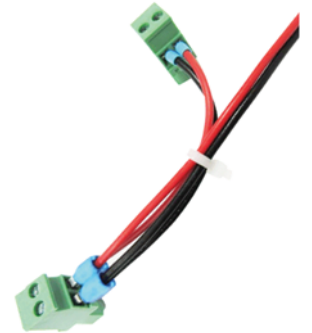

Fig 5
- It is possible to connect the use to the 48Vdc (voltage as PoE) via the screw terminal (see figure 5).